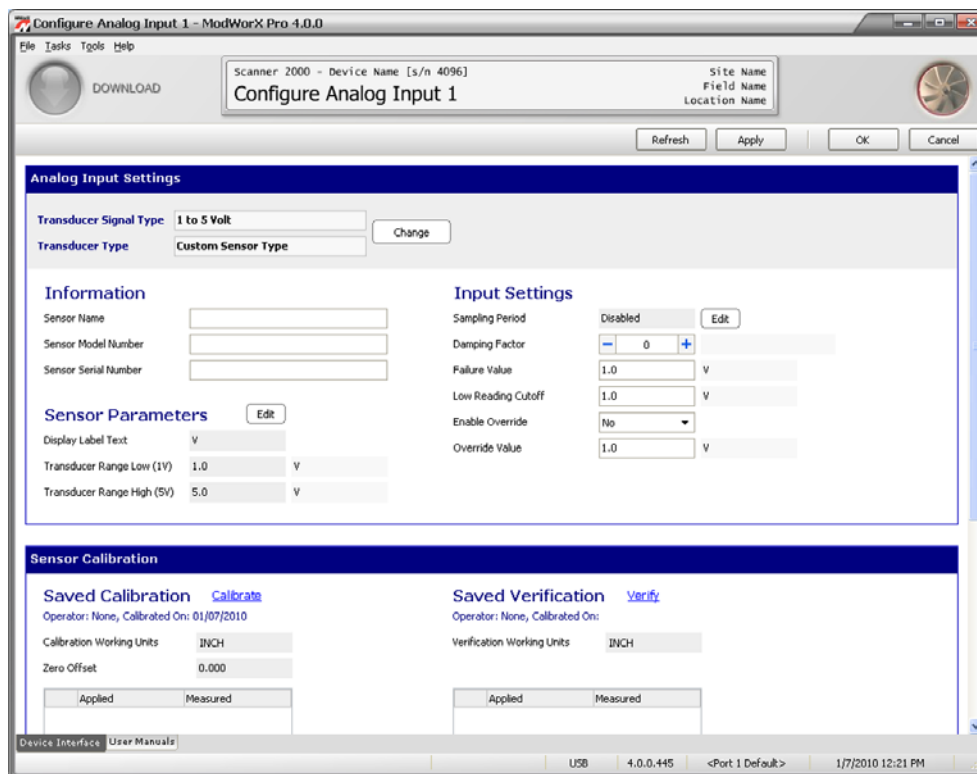

Figure 6.20
- Click the **Edit** button next to Sensor Parameters (Figure 6.20).